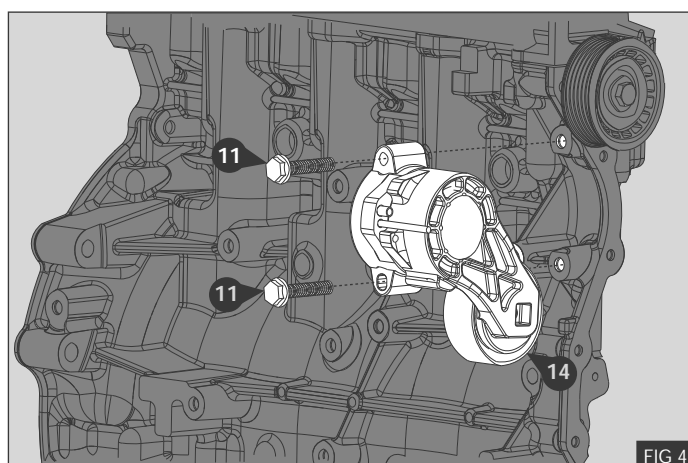

FIG 4
6. Secure the automatic belt tensioner (14) using the two supplied M8 x 45 bolts (11) - Fig 4.